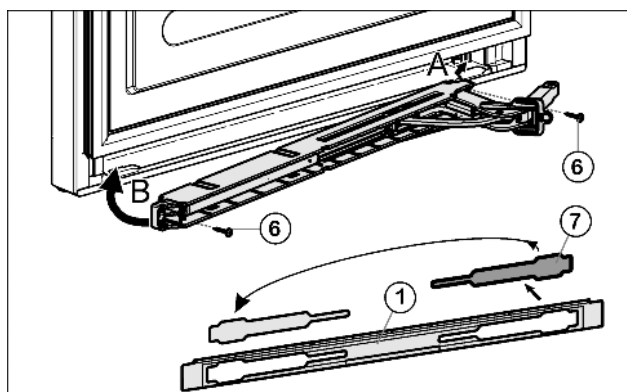

Fig. 9
- ▶ Remove the cover Fig. 9 (7) from the faceplate Fig. 9 (1) and re-insert it at the other side.
- ▶ Engage the soft stop unit with the joint pointing to the hinge side (A) and swivel into place (B).
- ▶ Screw down the soft stop unit (2x Torx® 15) Fig. 9 (6).